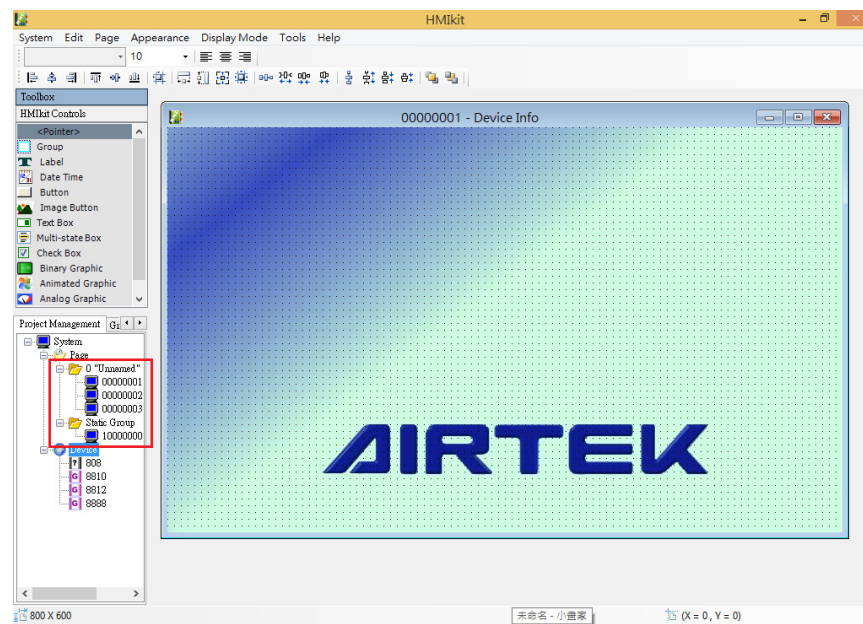

Figure 4-1 Project page graphic template(Marked Red)
- 1 Page Graphic template: in the design mode, located in the lower left of the screen that is a list of created page graphic template, as shown in Figure 4-1